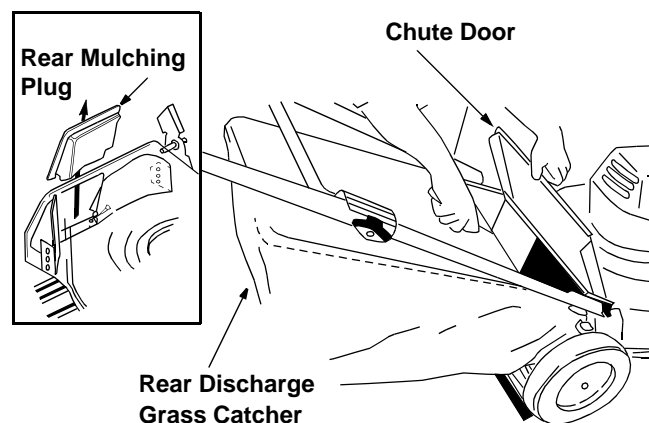

FIGURE 6
- Lift the chute door on the mower. Remove the rear mulching plug. Place hooks, located on two sides of the grass catcher frame, over the chute door pivot rod on the back of the unit. See Figure 6. Release chute door.